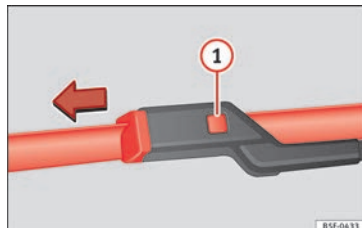

Fig. 66 Changing the windscreen wiper blade.
- Press the securing tab down **1** » Fig. 66. »